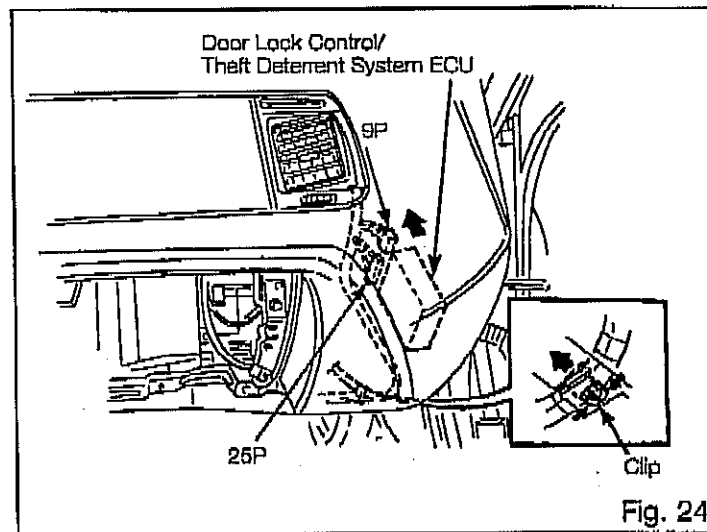

Fig. 24
- (1) A) Behind the dash on the passenger's side of the vehicle, unlock the clip securing the vehicle's wire harness as shown. Fig 24
- B) Locate and disconnect the vehicle wire harness' orange 9P and 25P connectors from the Door Lock Control/Theft Deterrent System ECU. Fig 24